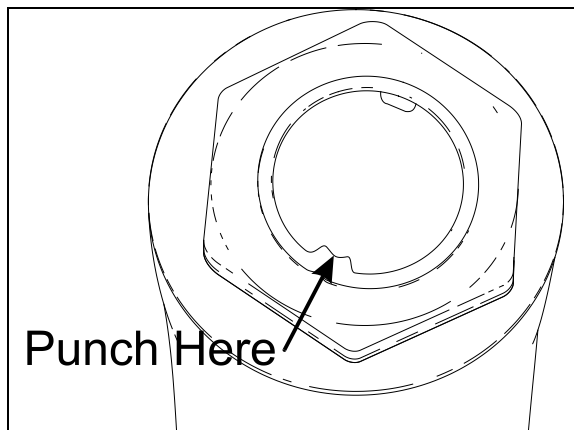

FIGURE 15: FIXING NUT PUNCH MARK
3. Lock nut with sector shaft using a punch mark into the groove (Refer to figure 15).